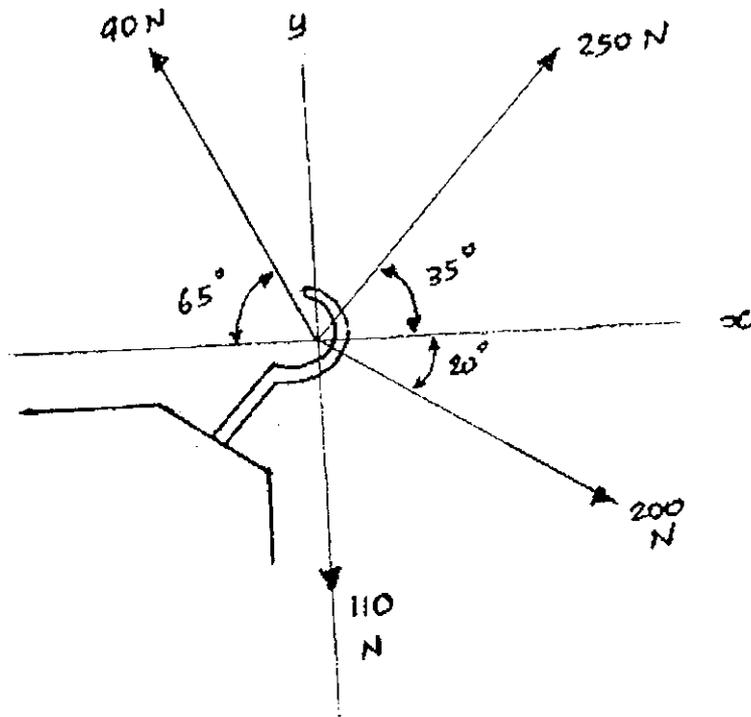

Fig.3
- (b) (i) Describe the methods of finding resultant of several concurrent forces. (8)
- (ii) Determine the magnitude and direction of the resultant of the forces acting on the hook shown in Fig.3. (8)